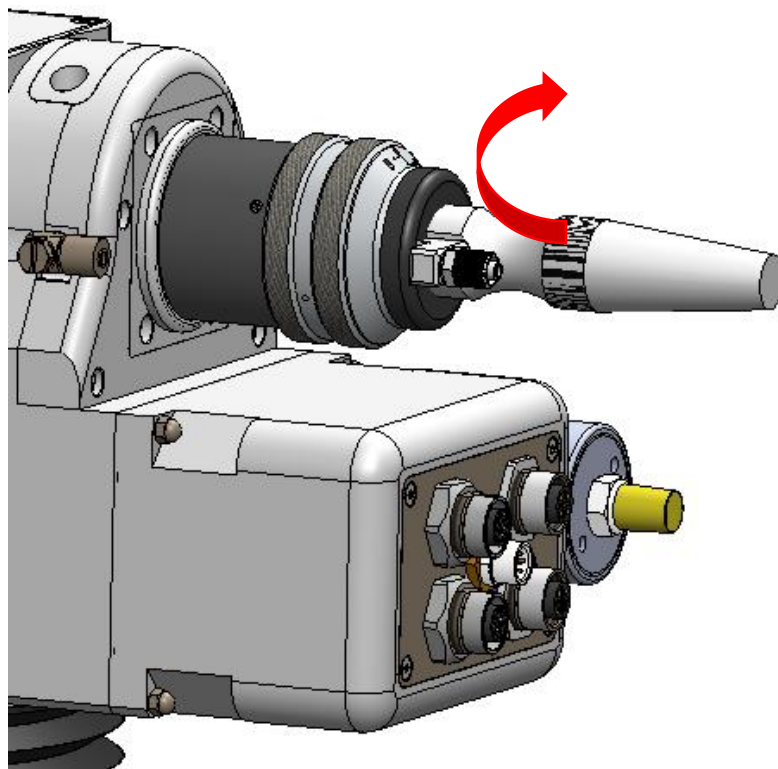

Figure 2.9
⑤ Turn the QBH connector to the locked state, that is, screw it toward the limit position clockwise (a "thud" sound can be heard). Then lift the swivel nut up and screw the nut clockwise again until the fiber tip is compressed tightly. (Clockwise: toward the direction of the "locked" icon). (Do not twist with great force, otherwise the internal structure of the QBH may be damaged, as shown in Figure 2.9).